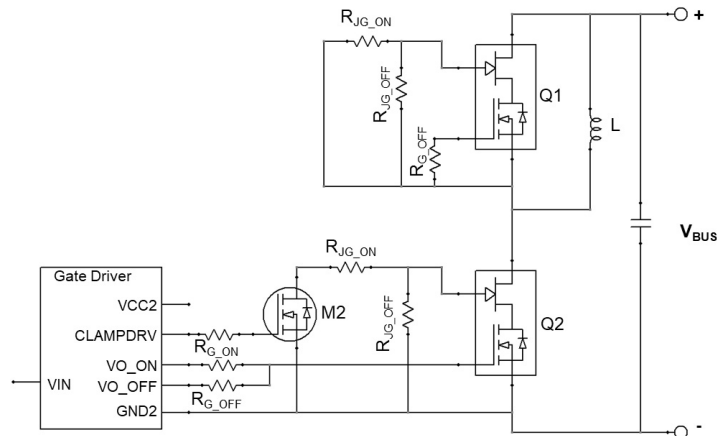

Figure 23. Schematic of the Half-bridge Mode Switching Test Circuit with ClampDRIVE Method
5. Measured with the half-bridge mode switching test circuit in Figure 23.